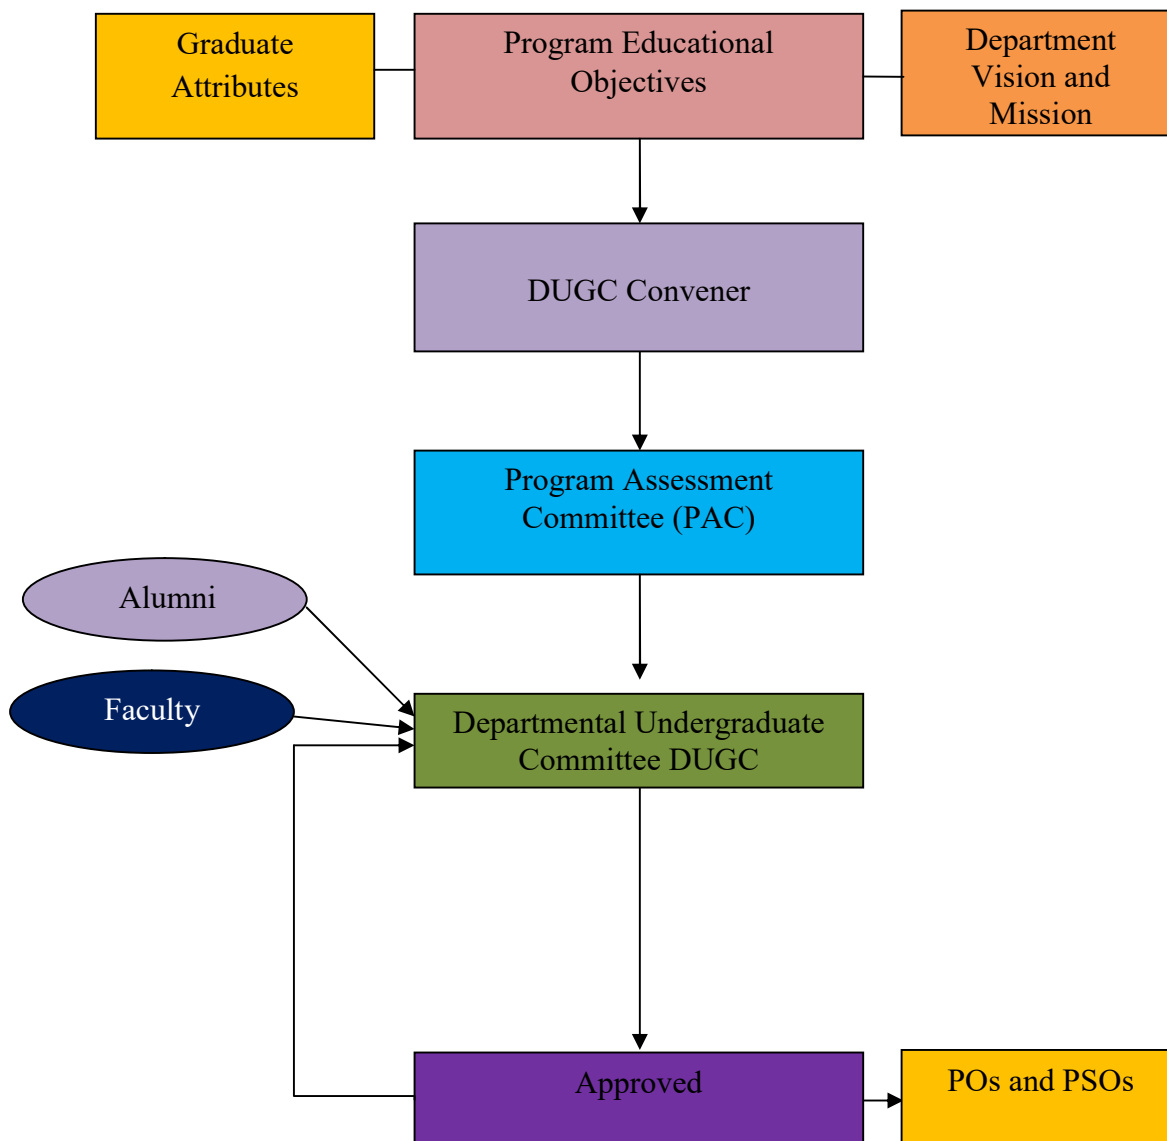

Figure B.2.1.4a: Procedure for Defining Program Outcomes and Program Specific Outcomes
- The Program Assessment Committee considers the defined mandatory graduate attributes (GAs) from the NBA guidelines, Program Educational Objectives, Vision and Mission statements of the Department and views from the stakeholders. The committee develops POs & PSOs and discusses with the senior faculty members of the Department. The developed POs & PSOs are put up in DUGC (earlier Board of Studies) meeting for review and approval. Process of defining POs and PSOs is depicted in the flowchart as shown in Figure B.2.1.4a.